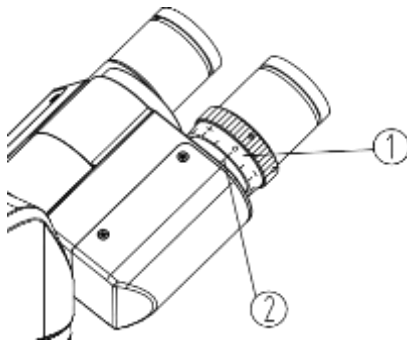

Fig.11
Observe the right eyepiece with the right eye, focus it until the image is clear. Then observe the left eyepiece with the left eye, if the image is not clear enough, rotate the diopter adjustment ring① until the image is clear (See Fig.11).